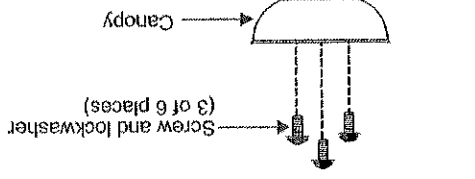

Figure 9
6. Remove three of the six screws and lock washers (every other one) from the collar of top motor (Figure. 9)
7. Place the ceiling canopy over the collar at the top of the motor. Align the mounting holes with the holes in the motor and fasten using the screws and lock washers provided (Fig. 9).
8. Tighten the mounting screws securely. (Fig. 9)